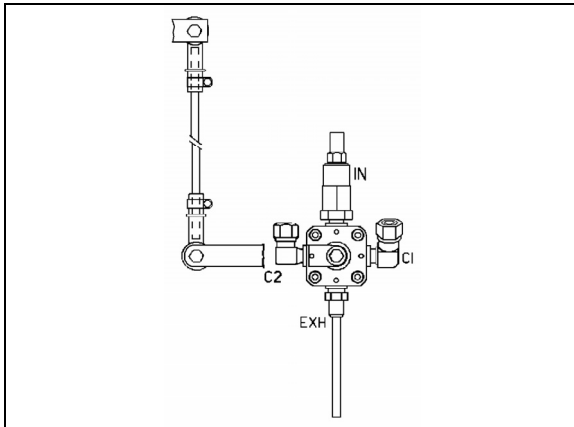

FIGURE 40: FRONT HEIGHT CONTROL VALVE 16100
2. Loosen the clamp on the height control valve rubber coupling and bring it up or down (Fig. 40).